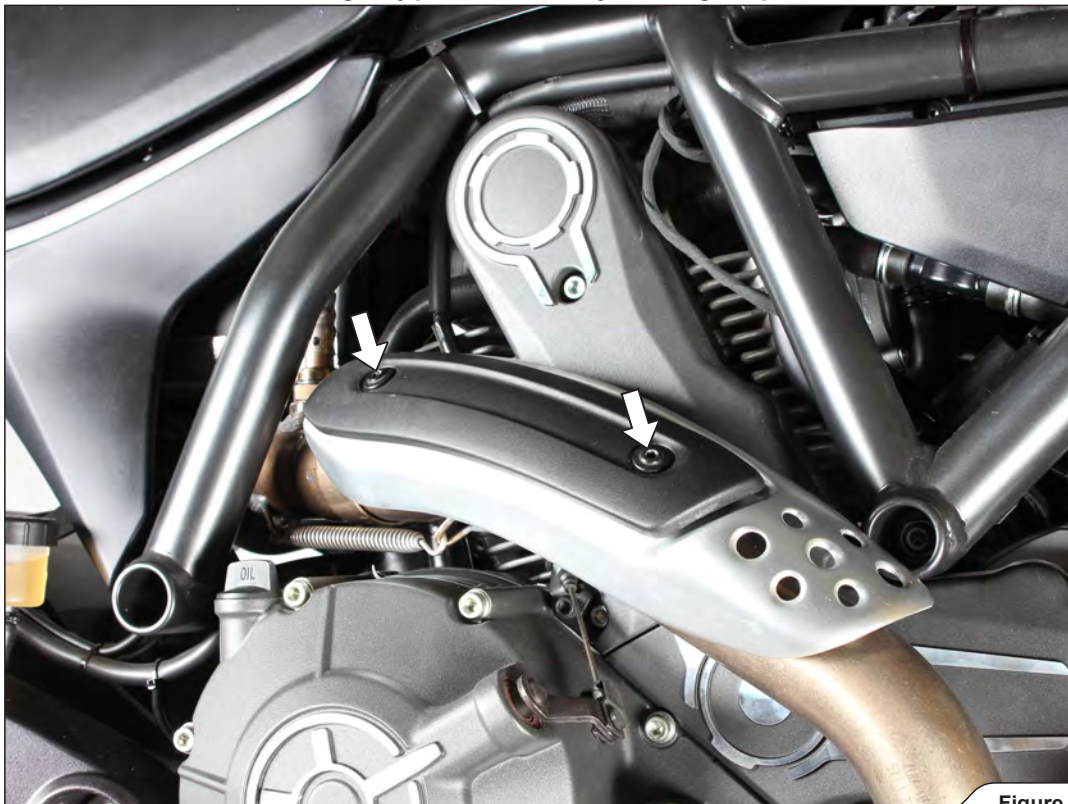

Figure 1
2. Unscrew the marked bolts and remove the stock heat shield (**Figure 1**).